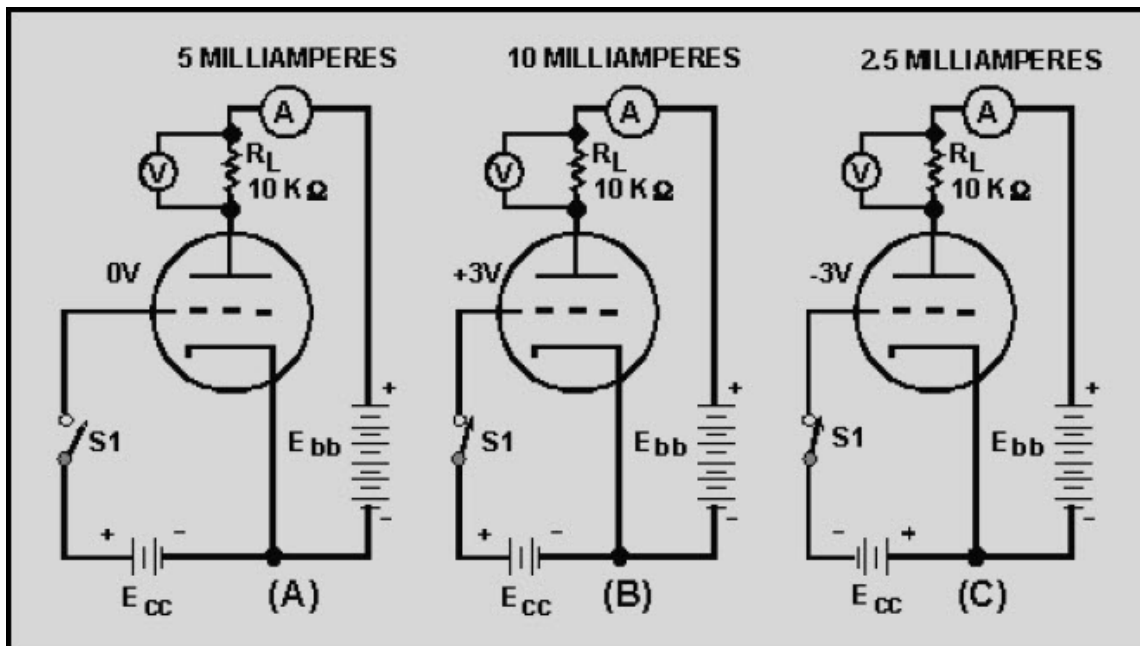

Figure 1-16 Operation of the plate load resistor
In other words, run the plate current variation (caused by the voltage on the grid) through a resistor, and cause a varying voltage drop across the resistor. This is shown in figure 1-16.
In view (A) of figure 1-16, the control grid is at 0 volts. Once again 5 milliamperes flow in the plate circuit. Now, the 5 milliamperes must flow through R_L . The voltage drop is equal to: